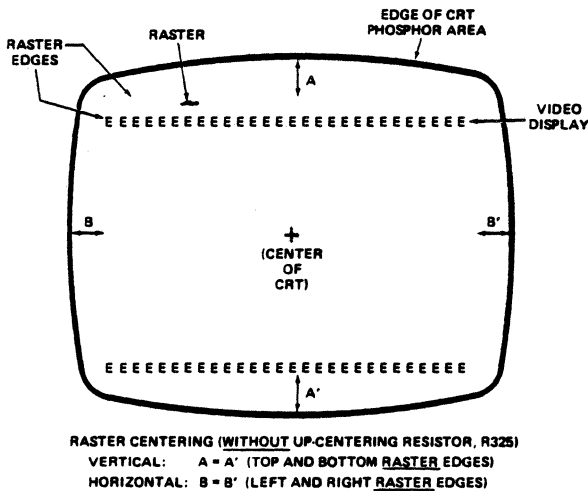

Figure 9. Raster Centering Without Up-Centering Resistor, R325
- Step 1. Turn up the Remote Brightness control (R213) until the four (4) edges of the raster are visible.
- Step 2. (Reference Figure 8.) Rotate the two (2) centering magnets (simultaneously) until the raster is centered (horizontally and vertically) within the active phosphor area of the CRT. (Reference Figure 9.)